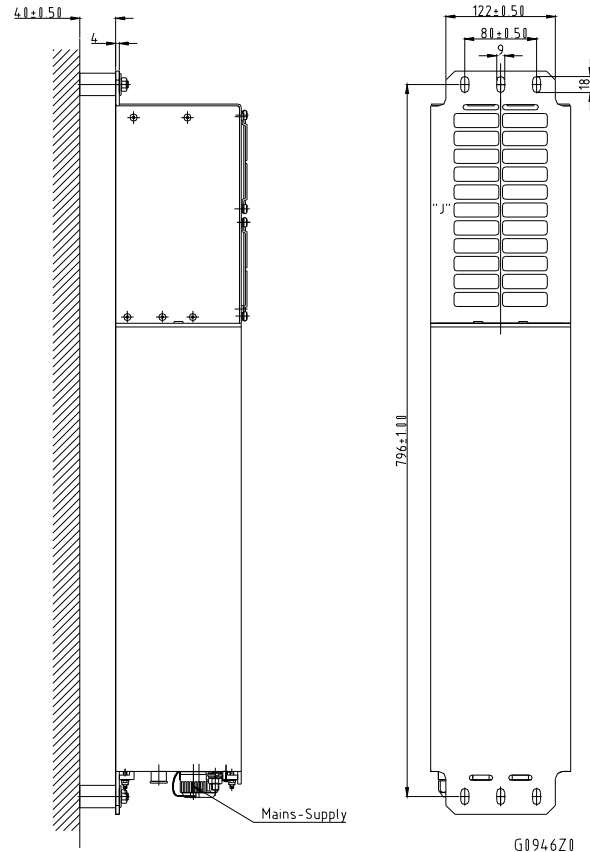

figure 4-1 Wall Mounting
1. Mark the position of the drilling holes (for measurements refer to *(figure 4-1 Wall Mounting)*). Drill four holes at the marked positions and insert dowels*.
Note: When fastening the brackets make sure that they are installed congruently and not at an angle to each other. To determine the distance between the clamps refer to *figure 4-1 Wall Mounting for measurements*.